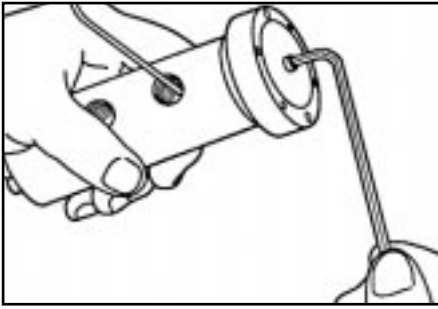

Figure 16
3. Put a 7/64" Allen wrench through the upper body exhaust port, into the hole in the upper poppet stem. (Fig.16)
4. Use a 9/64" Allen wrench to remove the piston lock screw. (Fig.16)